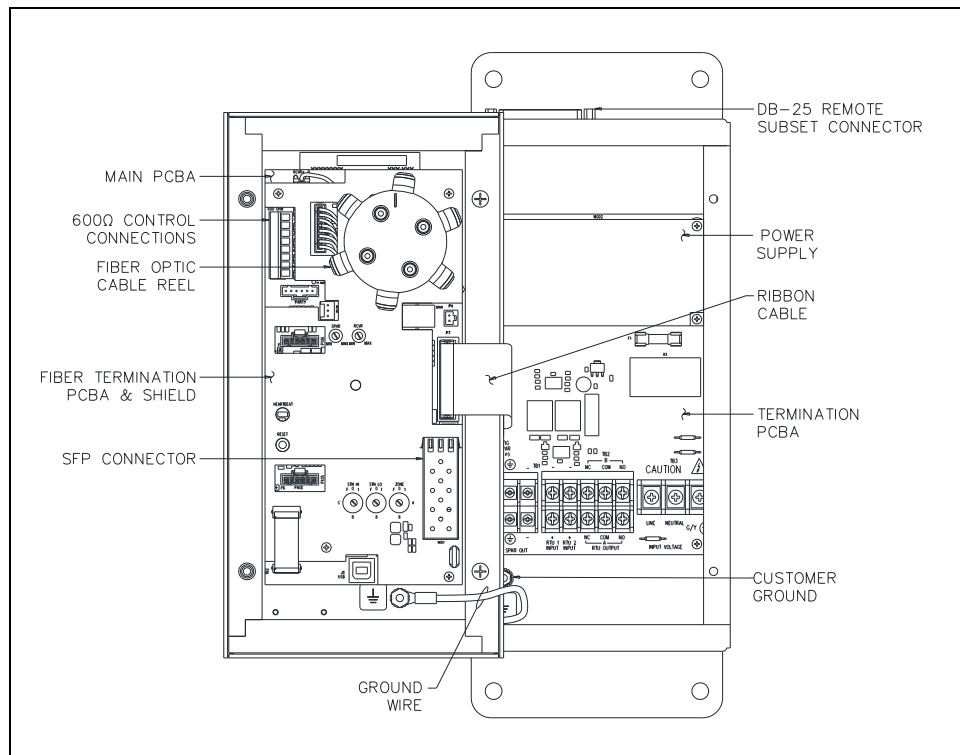

Figure 3. SP2 Fiber Remote Subset Amplifier Station—Interior View
2. Secure it to the ground terminal located in the lower left corner at the back of the rear enclosure (see Figure 3).